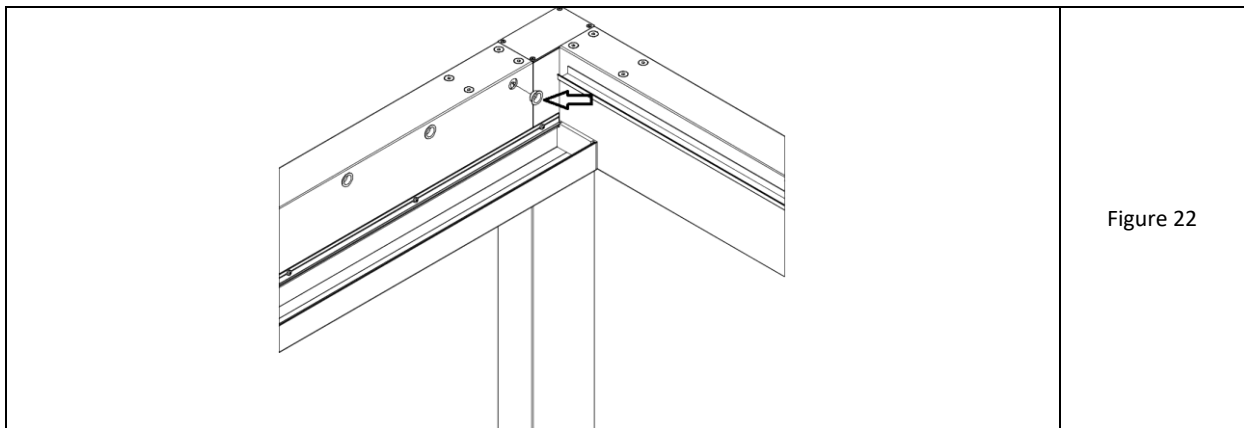

Figure 22
20. In the extreme holes at both ends of the lengthwise beams, hammer plastic sliding rings on the side wall (fig. 22).